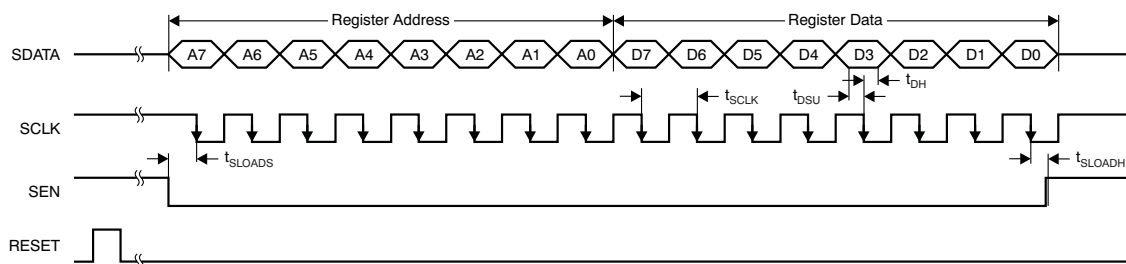

Figure 151. Serial Interface Timing
1. Either through hardware reset by applying a high pulse on the RESET pin (of width greater than 10ns), as shown in Figure 151; or